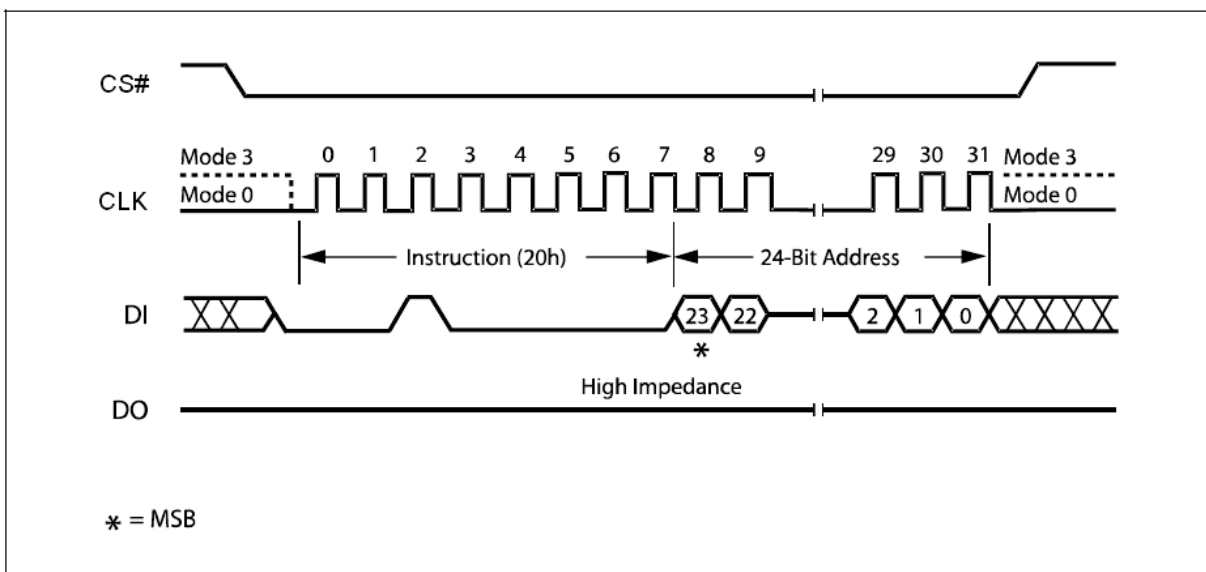

Figure 22. Sector Erase Instruction Sequence Diagram
The instruction sequence is shown in Figure 22. Chip Select (CS#) must be driven High after the eighth bit of the last address byte has been latched in, otherwise the Sector Erase (SE) instruction is not executed. As soon as Chip Select (CS#) is driven High, the self-timed Sector Erase cycle (whose duration is t_{SE}) is initiated. While the Sector Erase cycle is in progress, the Status Register may be read to check the value of the Write In Progress (WIP) bit. The Write In Progress (WIP) bit is 1 during the self-timed Sector Erase cycle, and is 0 when it is completed. At some unspecified time before the cycle is completed, the Write Enable Latch (WEL) bit is reset.